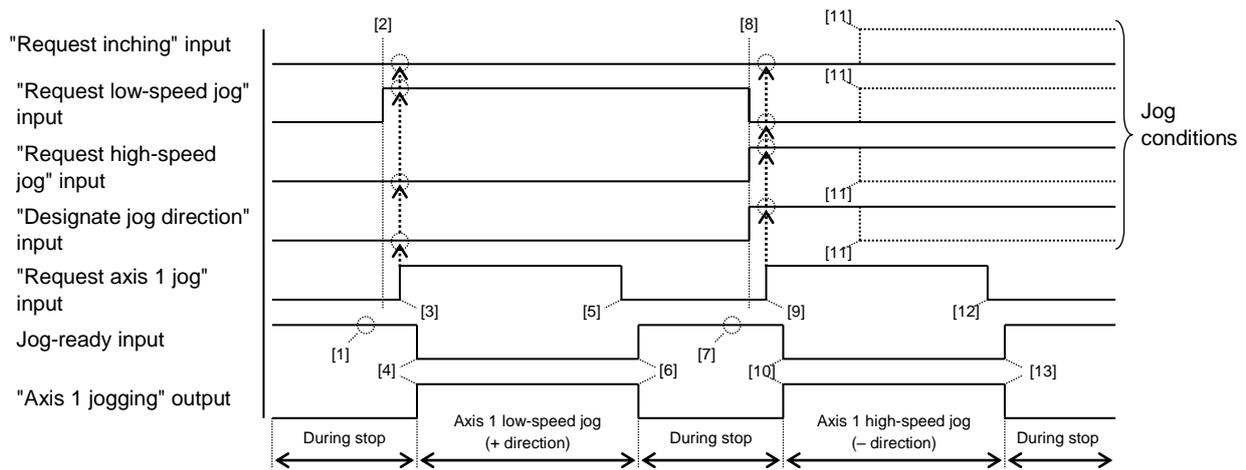

Fig. 12.2.4-1 Example of axis 1 travel
- While the jog conditions (inching, high-speed travel, low-speed travel) and travel direction are specified and the "request jog" input is ON, corresponding axis moves at jogging. (See Fig. 12.2.4-1.)